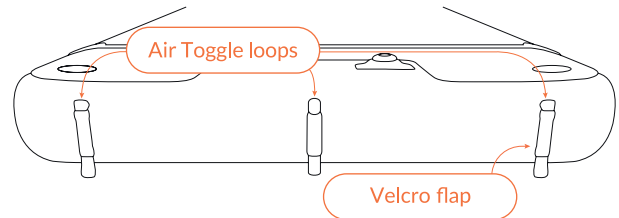
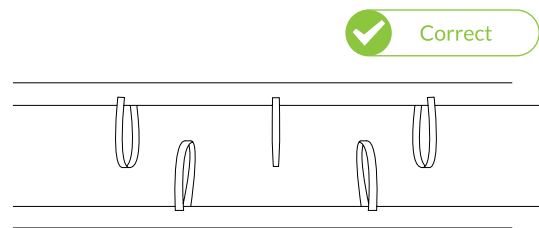

Fig 103 - Undo the Velcro flaps to release the Air Toggle loops
Fig 104 - Correct alignment of Air Toggle loops
3. They must be brought together so that the Air Toggle loops are staggered in between each other (Fig 104).
7. From a kneeling position ensure the Air Toggle loops are all unfastened by releasing the Velcro flaps (Fig 103) and that they sit in between each other (Fig 104)